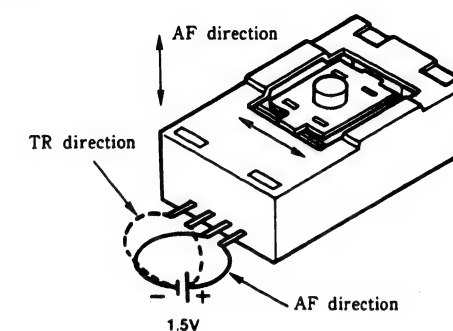

Fig. 14
6. Inspection of the actuator (Fig. 14)